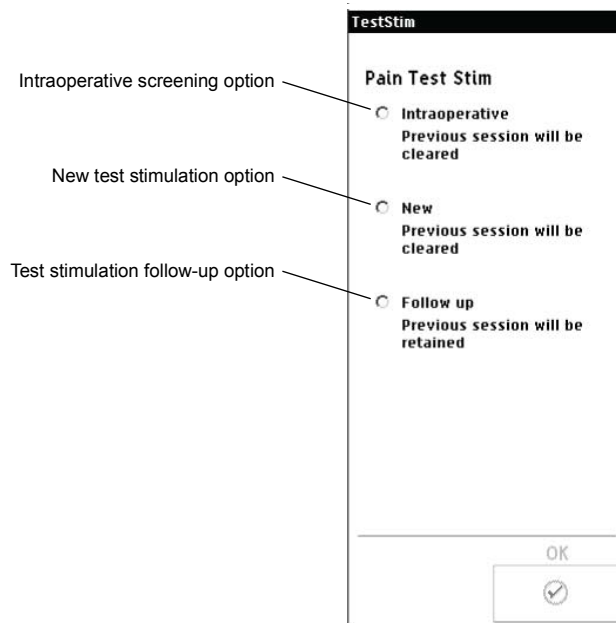

Figure 15. TESTSTIM SELECTION screen for programming the ENS.
Screening and test stimulation options are available from the TESTSTIM SELECTION screen after initial interrogation when the ENS is identified (see Figure 15 on page 24).
1. Select New from the TESTSTIM SELECTION screen (refer to Figure 15 on page 24).
1. Select Follow up from the TESTSTIM SELECTION screen (refer to Figure 15 on page 24).